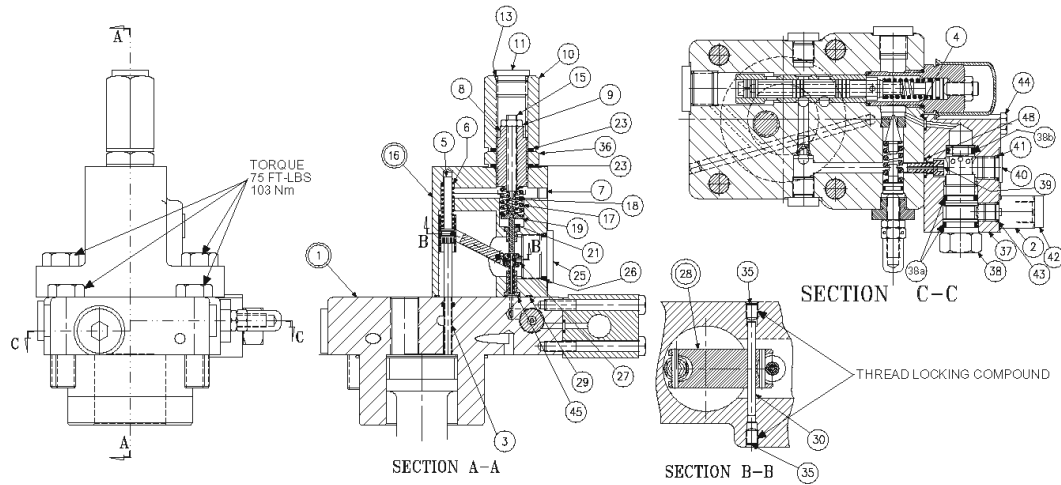

FIGURE 13
1. Install Avseal plugs (9) and .047", 1.19 mm. orifice (19) in body.
2. Press seat (10) into bore squarely against shoulder in bore.
3. Install plug (12) and spool (18) into bore as shown. Install spring (11) over end of spool. Install O-ring (6) on seal piston (16). Lubricate and install into plug (15). Install plug (15) into cap. Install screw (3), nut (4) and cover (17).
4. Install O-ring (6) on seal piston (5).
5. Lubricate O-ring and install cone (8), spring (7) and seal piston into bore in cap (1), being careful that cone enters seat (10). Install remaining parts in body (1).
6. Install O-rings (29-a) and (29-b) on valve (29). See Figure 13, page 40. Observe that backup ring on inside groove is toward the outside, the one on the middle groove is toward the inside, and the one on the outside groove is toward the outside. Lubricate and install valve (29) in block (28), being careful to avoid damaging the O-rings. Torque to 50 lb.·ft., 67.8 Nm.
7. For the P110 only, install O-ring (32) on adapter (35). Install adapter in block (28). Install plug (31) in adapter (35). For the P07 only, install O-ring (32) on plug (31). Install plug (31) in block (28).
8. Note proper location for cap on pump (page 24). Install O-rings on interface between cap and pump control pad. Install O-rings (26) in block (28).
PARTS LIST FOR FIGURE 13
1. **See Figure 13.** Remove 2 screws holding torque limiter body (16) to cap assembly (1).
2. Remove all parts from torque limiter body (16) except pin (30) and arm assembly (28). It is not necessary to remove these parts unless broken or worn. Examine parts for wear or damage.
3. Remove screw (3). Examine head for excessive wear, and body for smooth sealing surface with O-ring.
5. Remove modulating valve (38) from body (37). Remove body (37) from cap assembly (1). Note plug (40) must be removed to remove special screw (39). Remove cap assembly (1).
8. **See Figure 13.** Install block (37) on cap (1) with O-rings (4) and (48). Use special screw (39) through the block.